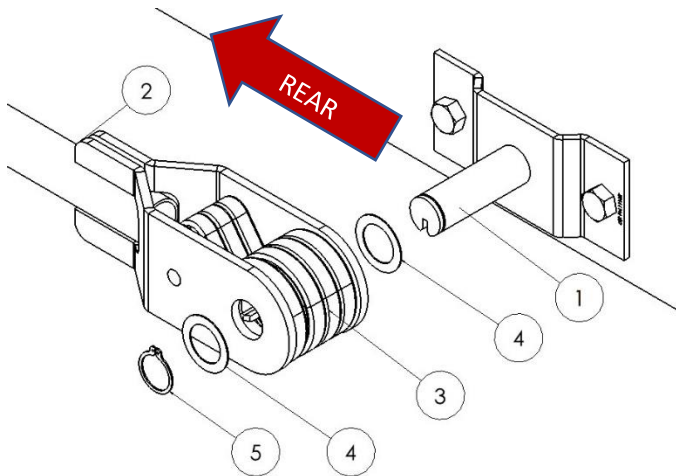

Figure 3.6
Once the lower arm is on the pivot pin place another stainless steel bushing (4) onto the pivot pin and attach the retaining ring (5) to the groove in the pivot pin. (Figure 3.6)